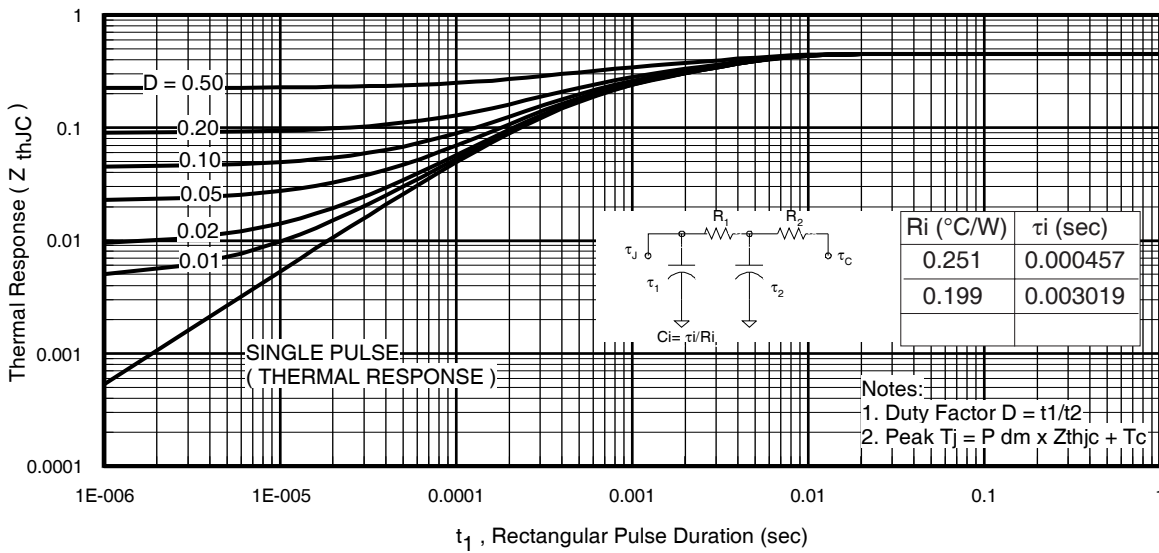

Fig 11. Maximum Effective Transient Thermal Impedance, Junction-to-Case
- ① Repetitive rating; pulse width limited by max. junction temperature. (See fig. 11).
- ② Limited by T_{Jmax} , starting $T_J = 25^\circ\text{C}$, $L = 0.11\text{mH}$, $R_G = 25\Omega$, $I_{AS} = 75A$, $V_{GS} = 10V$. Part not recommended for use above this value.
- ③ $I_{SD} \leq 75A$, $di/dt \leq 340A/\mu s$, $V_{DD} \leq V_{(BR)DSS}$, $T_J \leq 175^\circ\text{C}$.
- ④ Pulse width $\leq 1.0\text{ms}$; duty cycle $\leq 2\%$.
- ⑤ $C_{oss\ eff.}$ is a fixed capacitance that gives the same charging time as C_{oss} while V_{DS} is rising from 0 to 80% V_{DSS} .
$Z_{thJC}(D, t_{av})$ = Transient thermal resistance, see figure 11)